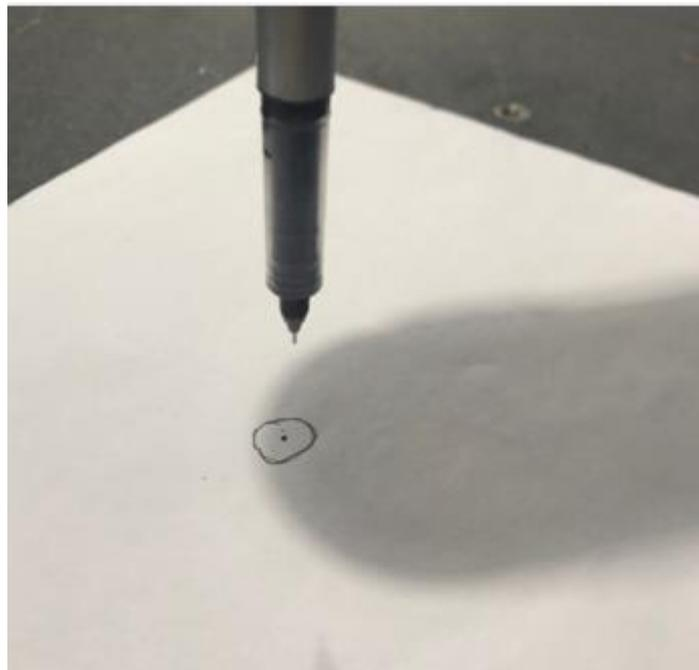

Figure 7.17 Calibration point
- Please prepare an A4 sheet of paper, and draw a small dot as a calibrated point, as shown in Figure 7.17 .